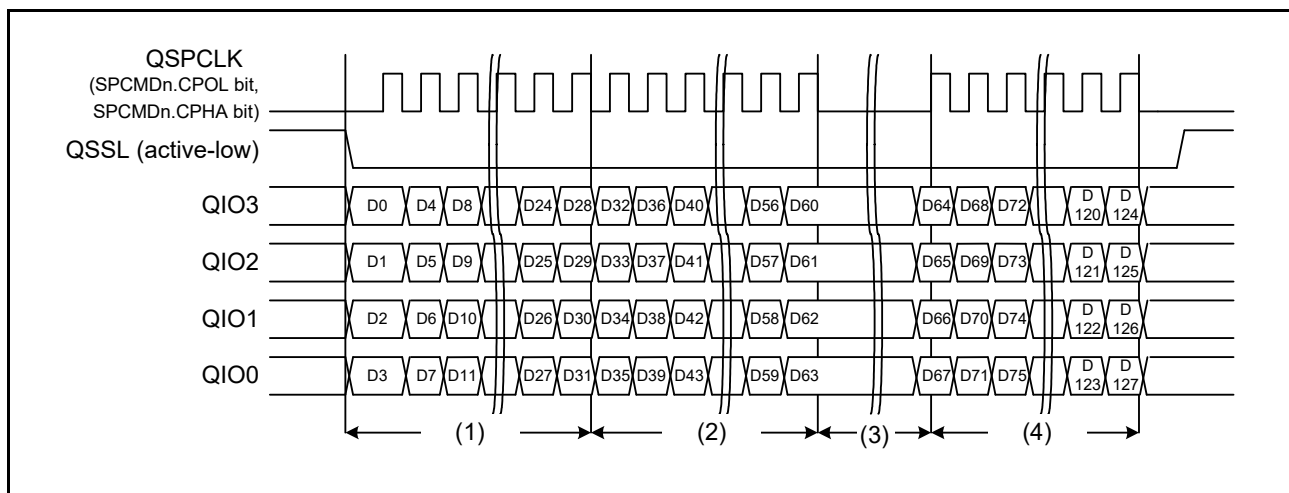

Figure 45.21 Burst Transfer Example in which Total Transfer Data Amount is 128 Bits (Quad-SPI Mode) ($n = 0$ to 3)
One method uses the SPCMDn.SPB[3:0] bits ($n = 0$ to 3) and the SPBMULn register. As with the single-SPI mode, setting the SPCMDn.SPB[3:0] bits to select 8, 16, or 32 bits and setting the SPBMULn register to select 1 through 4,294,967,296 allows the specified length of data to be continuously transferred for the specified times, where the length is specified by the SPCMDn.SPB[3:0] bits and the number of times is specified by the SPBMULn register. However, if the transmit buffer (SPTXB) becomes empty during transfer, or the receive buffer (SPRXB) has no longer a space enough to receive the specified length of data defined by the SPCMDn.SPB[3:0] bits, the clock is stopped until transfer is resumed. This method is effective to transfer a large amount of data in dual-/quad SPI modes. Figure 45.21 shows a burst transfer example in which the SPCMDn.SPB[3:0] bits are set to select 32 bits and the SPBMULn register to select four times thus specifying 128 bits as a total transfer data amount. The following describes operations (1) to (4) in the figure.
- (1) First 32-bit data transfer
- (2) Second 32-bit data transfer
- (3) When the transmit buffer becomes empty or the receive buffer has no longer a space for 32 or more bits, the clock is stopped. Here, when QIO3 to QIO0 serve as output pins, QIO3 to QIO0 continue outputting the previous value. When QIO3 to QIO0 serve as input pins, the inputs to QIO3 to QIO0 depend on the output value of the device to communicate with. When data is written to the transmit buffer or an enough space is created in the receive buffer, the clock output is resumed to restart transfer.
- (4) Third and fourth 32-bit data transfer